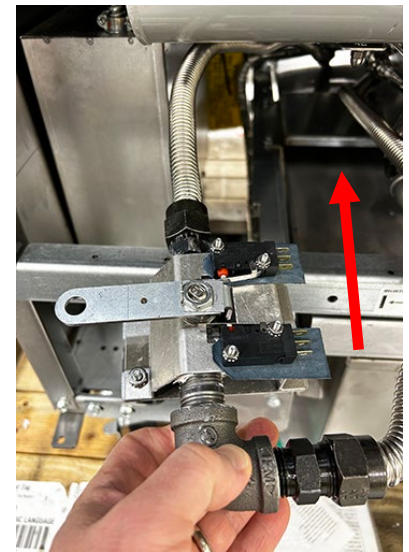
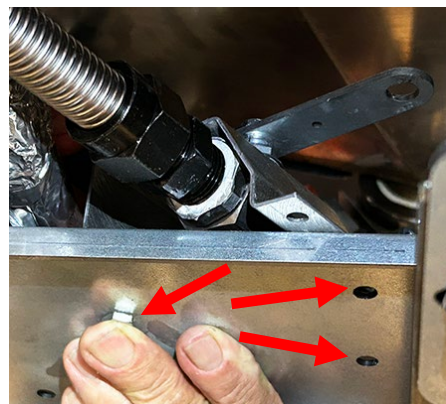

Figure 2
Figure 3
- Insert the dispose assembly into the fryer on the far-left cabinet as shown (see Figure 2).
- Line up the three (3) holes in the assembly with the holes on the filter motor bridge.
- Insert a 1/4" 20x5/8 bolt from the bottom into the assembly (see Figures 3 & 4) and attach with a nut on the top side. Insert the other two (2) bolts and attach nuts. Ensure all three bolts/nuts are securely fastened.